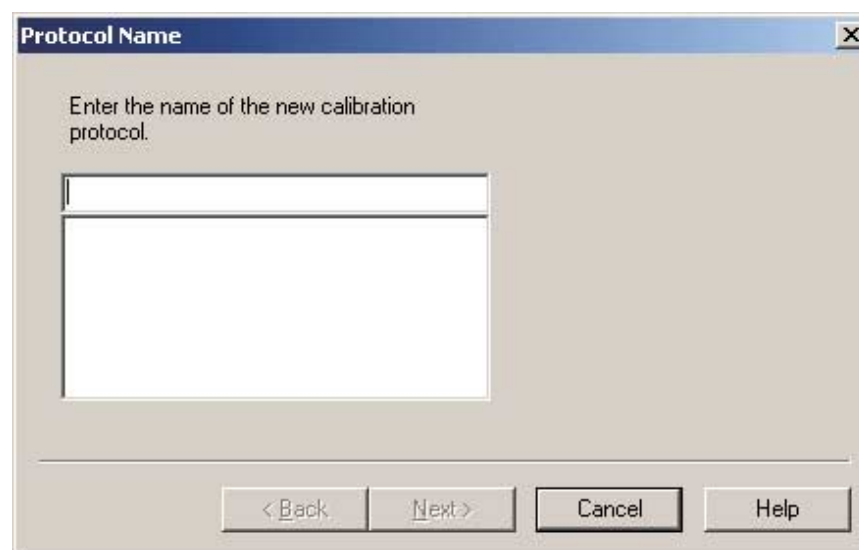

Figure 3-3: The *Protocol Name* dialog.
2. Click the **New** button. The **Protocol Name** dialog will open (Figure 3-3).